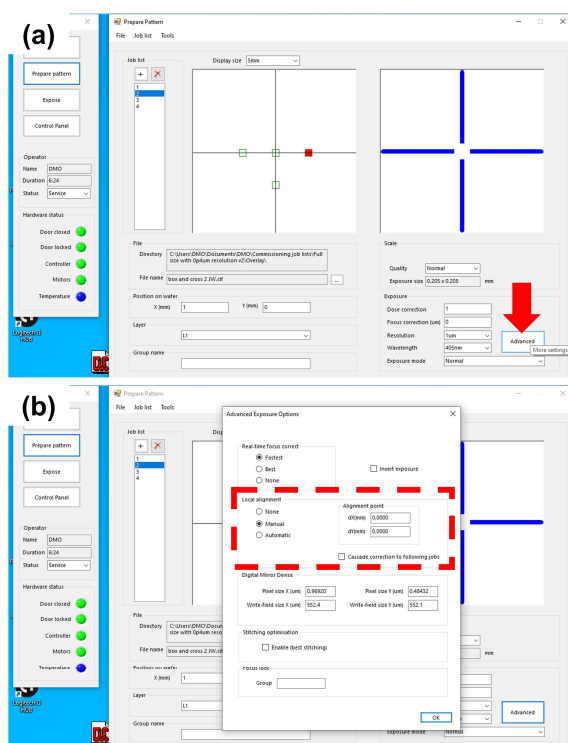

Figure 11 (a) Advanced options for a job. (b) Enable the Local alignment function, with Manual selected here. The alignment point is at (0 mm, 0 mm).
1. To enable this function for a job, first select this job in the Prepare Patterns window, and then go to Advanced (Figure 11(a)).
2. In the Local alignment section, select Manual or Automatic (Figure 11(b)).
3. Enter the coordinates in the Alignment point section (Figure 11(b)).